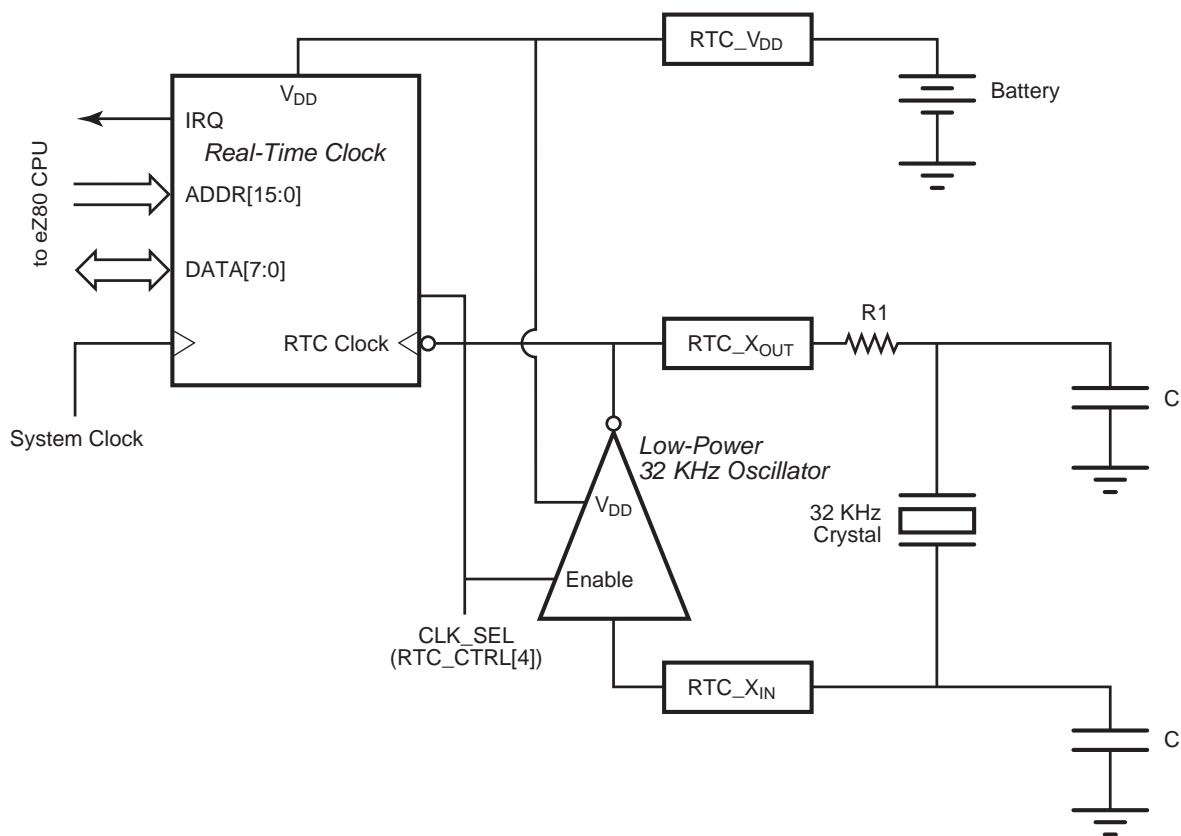

Figure 35. Real-Time Clock and 32kHz Oscillator Block Diagram
The Real-Time Clock (RTC) maintains time by keeping count of seconds, minutes, hours, day-of-the-week, day-of-the-month, year, and century. The current time is kept in 24-hour format. The format for all count and alarm registers is selectable between binary and binary-coded decimal (BCD) operations. The calendar operation maintains the correct day-of-the-month and automatically compensates for leap year. A simplified block diagram of the RTC and the associated on-chip, low-power 32 kHz oscillator is shown in Figure 35, which also shows connections to an external battery supply and a 32kHz crystal network.
► **Note:** If you are not using the Real Time Clock, the following RTC signal pins must be connected as shown in Figure 35 to avoid a 10 $\mu$ A leakage within the RTC circuit block. RTC\_XIN (pin 61) must remain floating or connected to ground.
The RTC count is driven by either the on-chip 32kHz RTC oscillator or an external 50/60 Hz CMOS-level clock signal (typically derived from the AC power line frequency). The on-chip oscillator requires an external 32 kHz crystal connected to RTC\_XIN and RTC\_XOUT as shown in Figure 35. If an external 50/60 Hz clock signal is used, connect it to RTC\_XOUT.